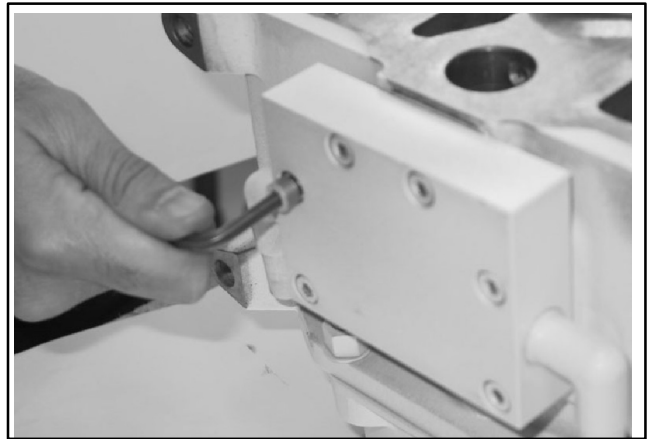

Figure 10-41 Oil Cooler Housing
3. Loosen the six hex cap head screws of the oil cooler housing and remove it from the engine. If the screws are tight, tap them with a hammer and a flat-faced punch to loosen them. See Figure 10-41.